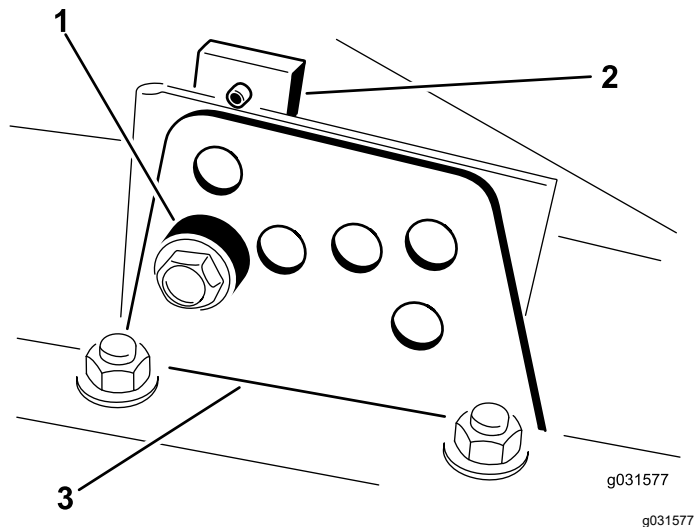

Figure 17
2. Loosen the bolt securing each height-of-cut bracket to the height-of-cut plate (front and each side) as shown in Figure 17.
4. While supporting the chamber, remove the spacer (Figure 17).